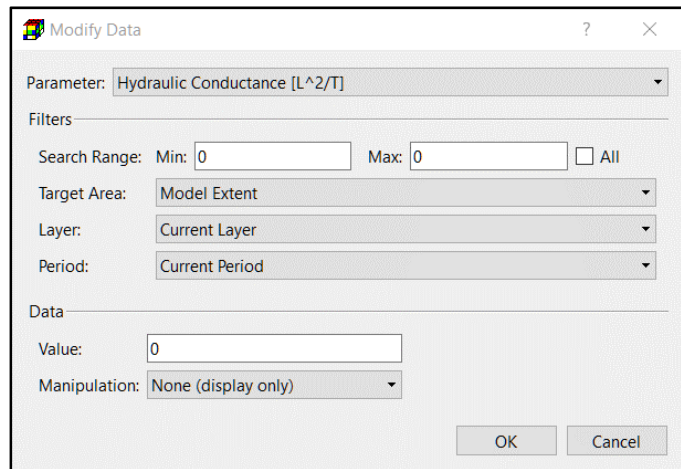

Figure 38. The Modify Data dialog box
4. Modify: Open the Modify Data dialog box (Figure 38) that allows you to modify cell values.